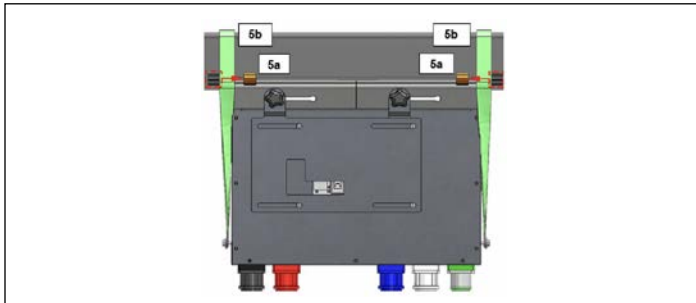

Figure 6. Secure the LBTOB on the rail
- a. Move both retainer clips inward over the lip of the LBTOB (Figure 6).
- b. Wrap the straps (shown in green) on each side around the bus rail. Connect each strap through the strap's cam buckle. The strap on each side should be tight and snug around the bus rail (Figure 6).